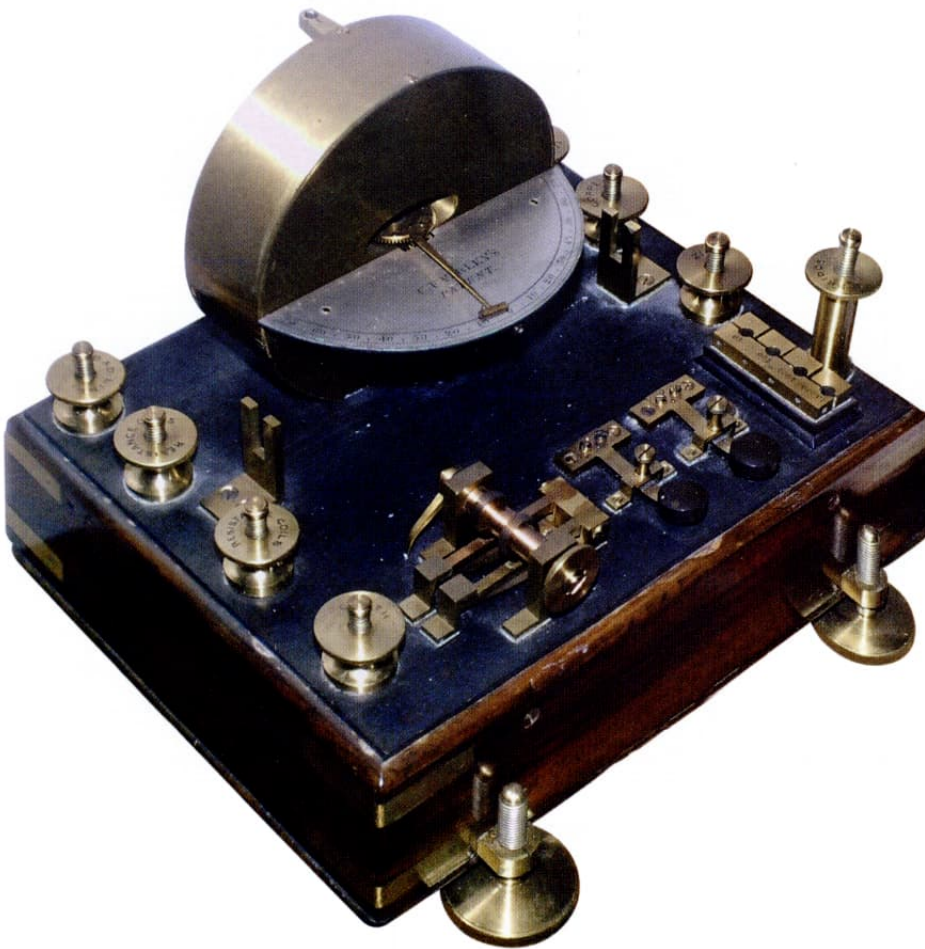
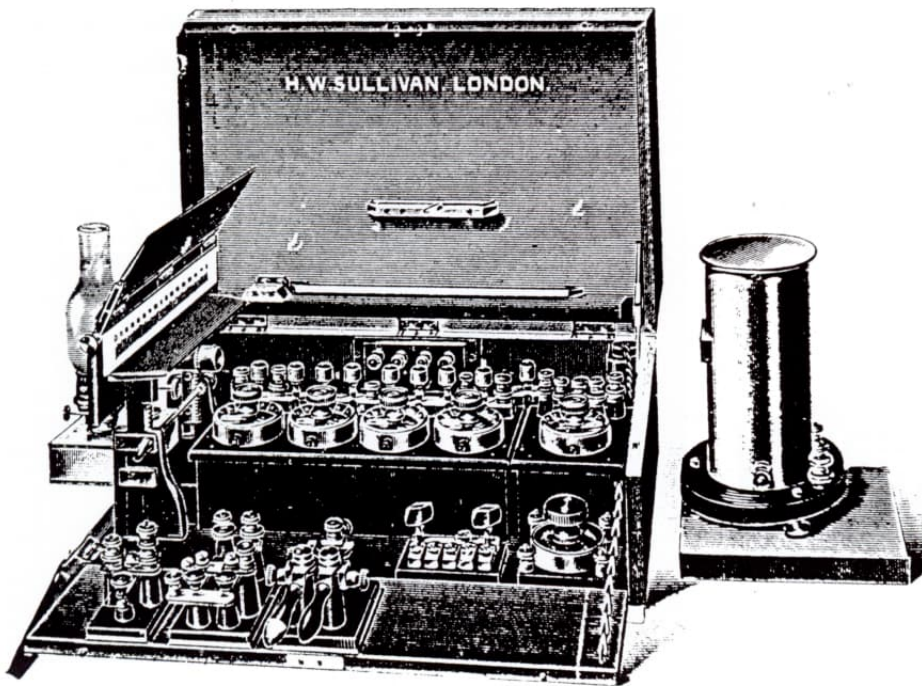

Fig.1 Varley test set (1865, Porthcurno Telegraph Museum)
Fig.3 HW Sullivan portable cable testing set
This is one of the earliest test instruments designed for telegraphy (Fig.1, Porthcurno Telegraph Museum). There were at least eight Varley brothers of whom four were involved with telegraphy and were founder members of the Society of Telegraph Engineers, later becoming the IEE. Cromwell Fleetwood and Samuel Alfred were leading lights in telegraphy, whilst their younger brothers, Octavius and Fredrick Henry, manufactured telegraph instruments.
Although taken from their 1921 catalogue, this instrument (Fig.3) could date from the late 19th century and is another example of a self-contained test set with a specific application. It contains a galvanometer, a thirteen position universal shunt, oil lamp & scale, 4-decade Wheatstone bridge 0000-11110 Ω with ratio arms of 10, 100, 1000 Ω (see Fig.1 in *HW Sullivan Ltd*, BVWS Bulletin 35 (4) Winter 2010) and a separate interchangeable 10k Ω resistor; 1/3 μ F (the capacitance of 1 mile of submarine cable) standard capacitor with certificate, earth plate and a variety of switches and test keys. The quality of the bridge is outstanding with silver switch contacts, ratio arms balanced to 0.005%, and decade resistors to 0.01%. The distance to a short circuit is indicated by its resistance and to an open circuit by the capacitance which can be ascertained either by bridge or ballistic methods. Voltages and currents can be calculated from the galvanometer deflections. It was listed at \pounds 180 reduced to \pounds 150, the cost of a small house in those days!